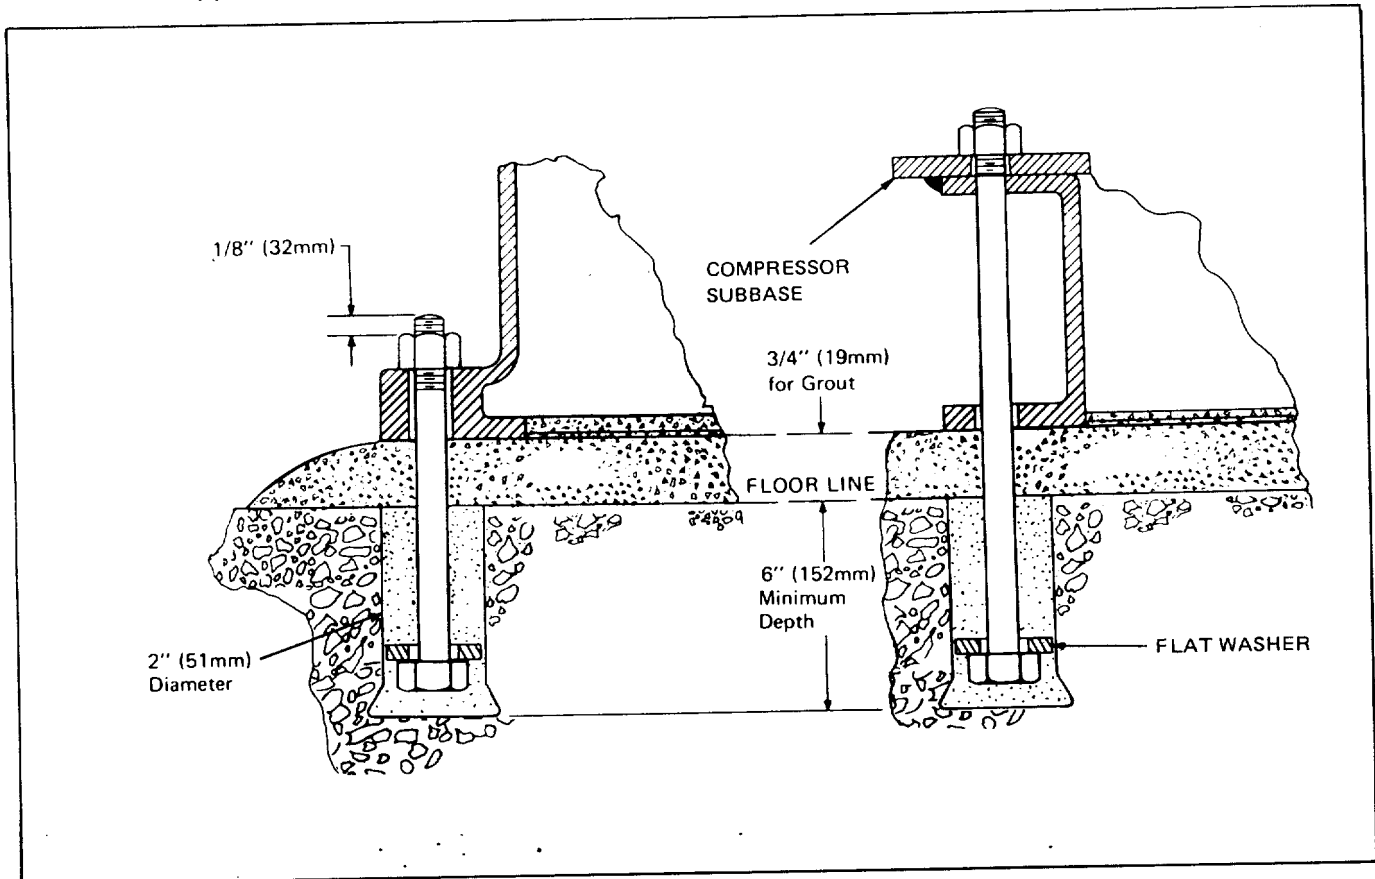

Figure 4. Alternate Foundation Bolting
### 3. Alternative Foundation Bolting (See Figure 4.)
- d. Lift the compressor and place the hold down bolts in its base with about 1/8 inch (3.2 mm) of bolt projecting above the nut. Set the compressor in place with the bolts hanging in the holes (see Figure 4).